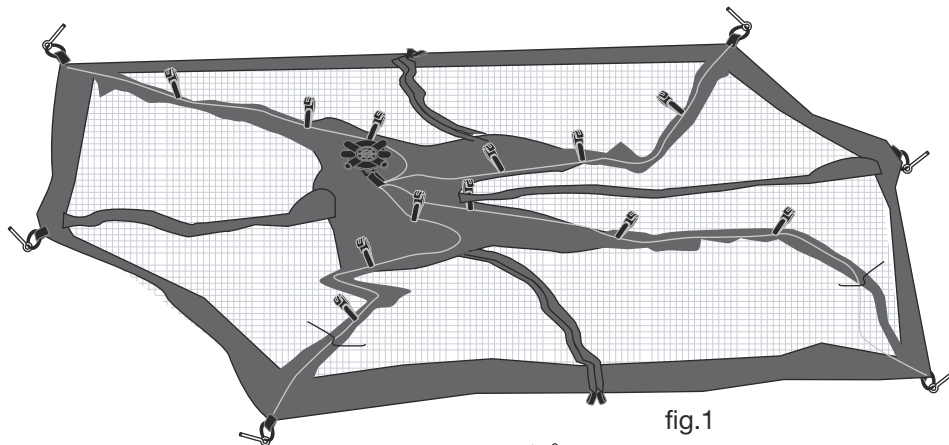

fig.2
- Assemble all of the chain-corded poles and rafters. Check and make sure that each section is fully seated into the next. See fig.2.